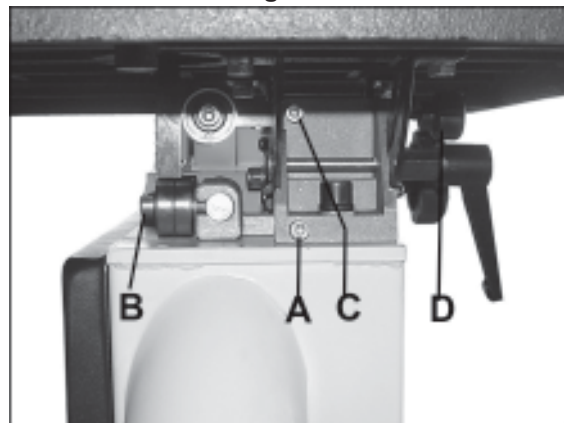

Figure 10
**Lower Guides:** To adjust the lower blade guides, first loosen the hex nut (A--Fig. 10) then move the guide carrier casting to allow the front to be approx. 1/16" behind the gullets of the Bandsaw blade and tighten the hex nut (A--Fig. 10). Next set the roller guides to within 1/32" of the blade by releasing the screw (B--Fig. 10) on each side of the blade. Adjust the thrust bearing to be just clear of the back of the blade by unlocking the hex nut (C--Fig. 10), and turning adjusting knob (D--Fig. 10). Finally, tighten hex nut (C--Fig. 10).